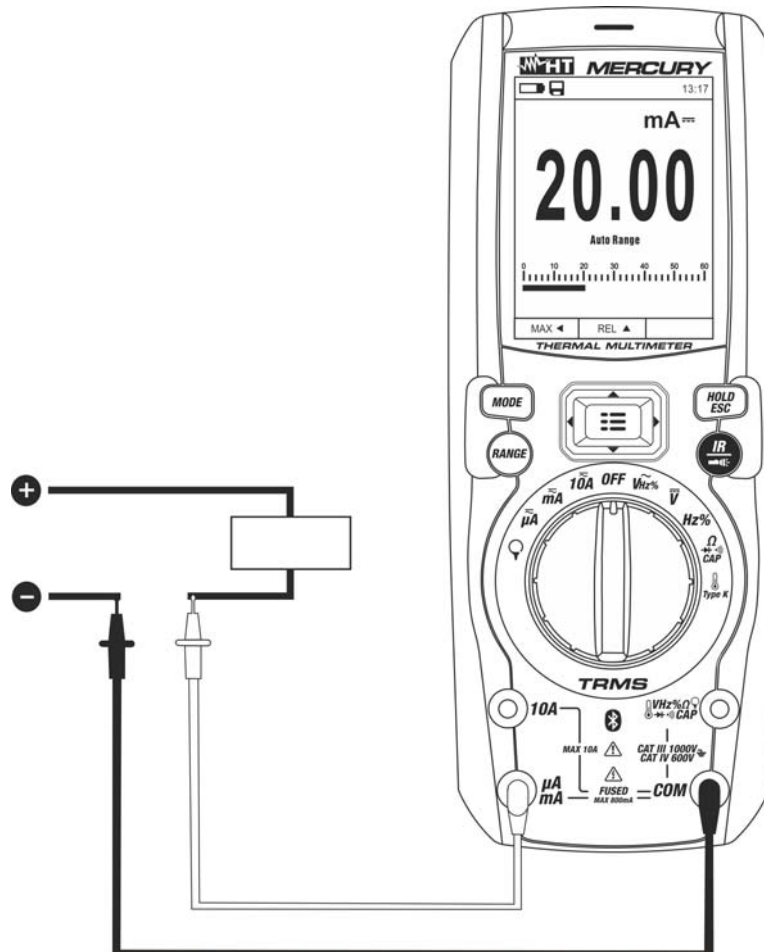

Fig. 28: Use of the instrument for DC and AC+DC current measurement
4. Connect the red lead and the black lead in series to the circuit whose current you want to measure, respecting polarity and current direction (see Fig. 28).
8. When symbol “-” appears on the instrument's display, it means that current has the opposite direction with respect to the connection in Fig. 28